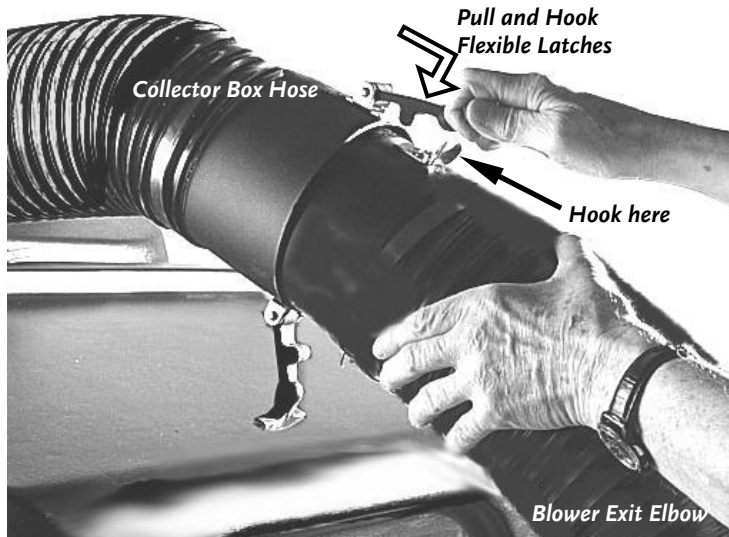

Figure 11
1. Connect the hose from the Collector Box to the Blower Exit Elbow Assembly by aligning the two Flexible Latches (**Figure 11**) and slipping the hoses together.
2. Pull and hook the two Flexible Latches into place (**Figure 11**) to secure the hoses.